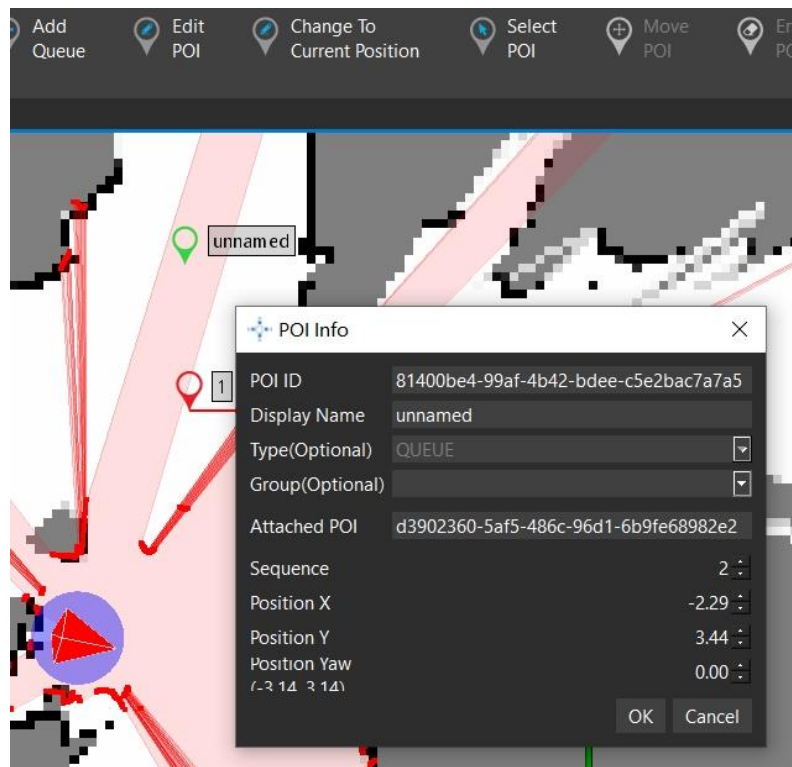

Figure 2.8.6 Adding Queue Point
3. Click **Add Queue** in the toolbar. On the map, left-click the position where you want to add the queue point and the **POI Info** dialog box will appear (as shown in Figure 2.8.6).